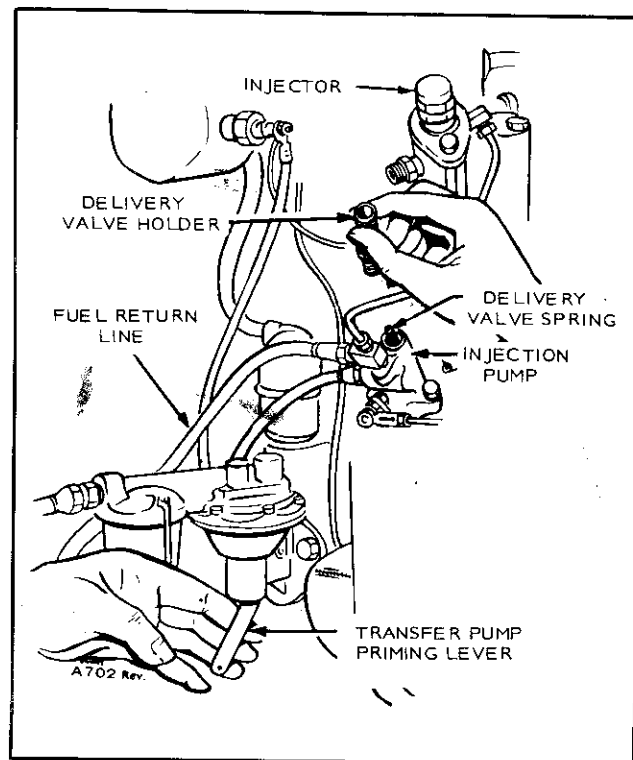

FIGURE 3-15. LOOSENING DELIVERY VALVE HOLDER
2. Loosen delivery valve cap nut and holder to relieve pressure on spring. See Figure 3-15.